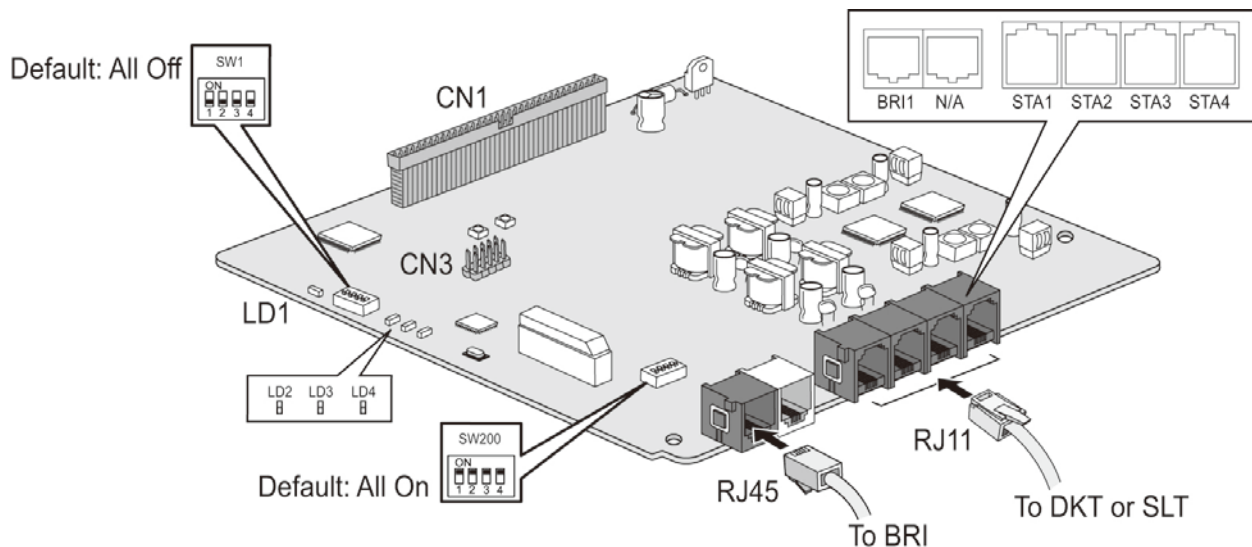

Figure 4.7.4-1 BH104
The BH104 board has one (1) BRI (2B+D) and 4 Hybrid (DKT & SLT) interface ports. The board, shown in Figure 4.7.4-1, can be installed on the CN1 connector of only the KSU. There are no option boards for the BH104.